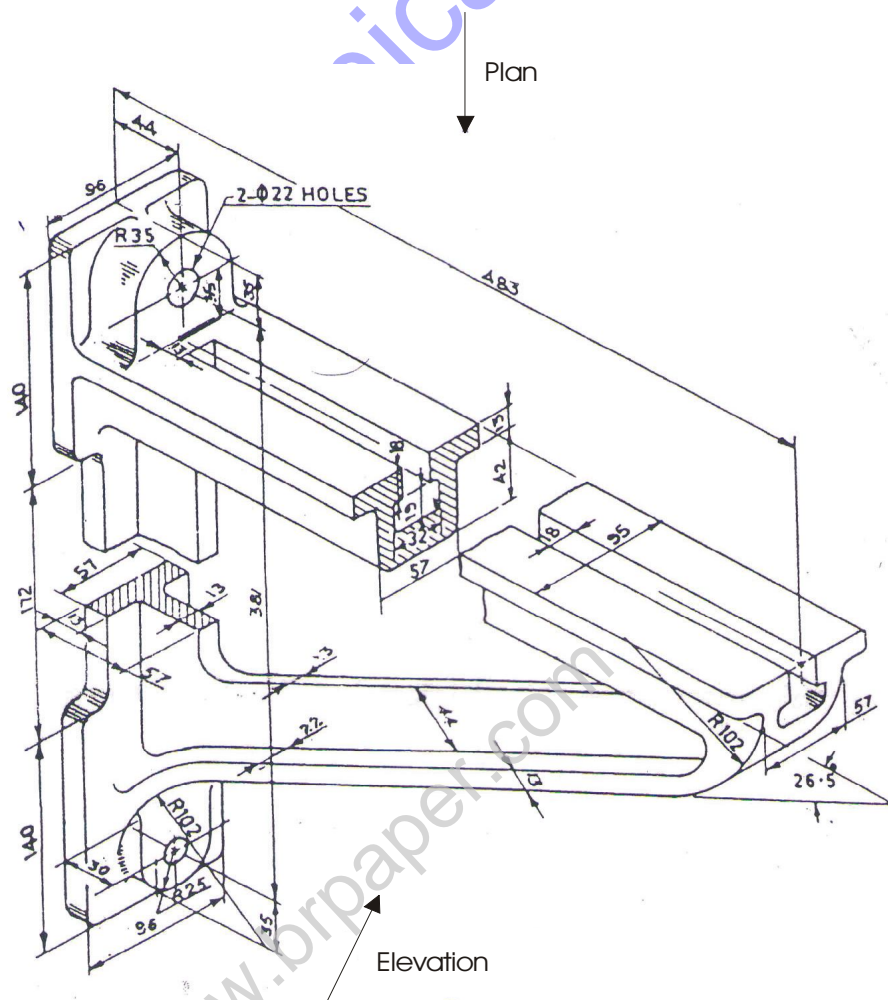

Figure 1 Wall Bracket
6. Draw the elevation and plan of the wall bracket shown in Figure 1.